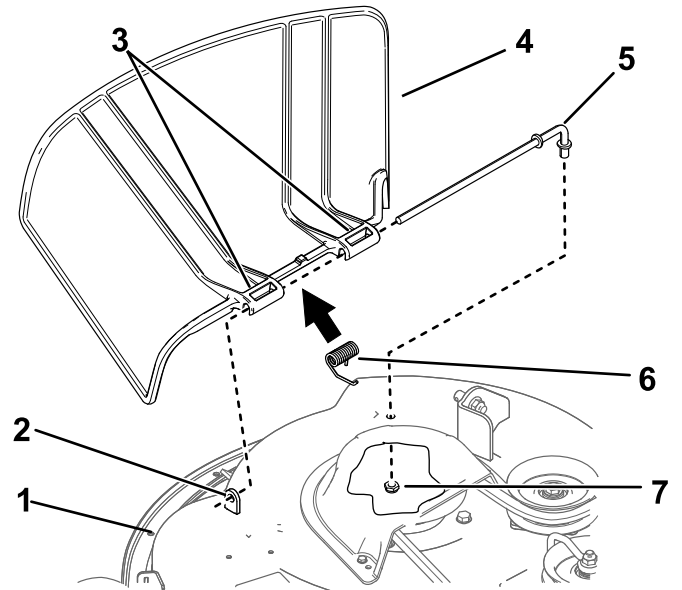

Figure 69
- Remove the nut (3/8 inch) from the rod under the mower (Figure 69).
- Slide the rod out of the short stand-off, spring, and grass pivot (Figure 69).
4. Install the new grass deflector (Figure 69).
7. Slide the rod through the second grass-deflector bracket (Figure 69).
9. Secure the rear end of the rod into the mower with a nut (3/8 inch) as shown in Figure 69.